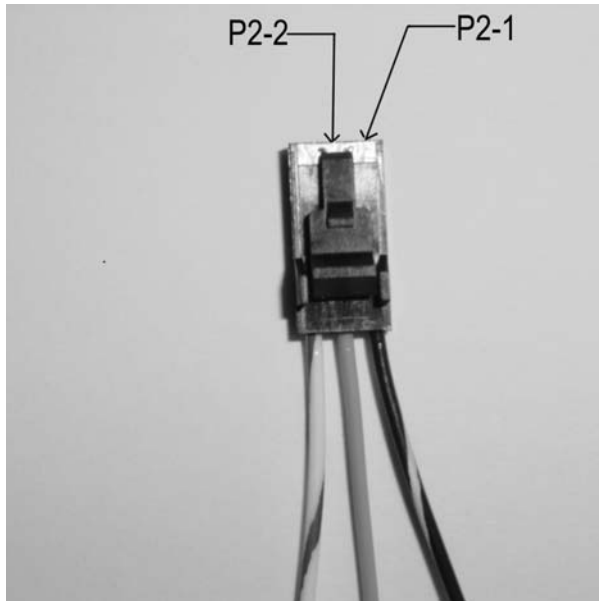

Figure 14. Potentiometer Connector P2 Pins 1 and 2
4. Remove P2 and connect DVM between P2 pin 1 and P2 pin 2 (Figure 14). Loosen screws to potentiometer to allow movement of potentiometer gear without moving nylon worm gear. Set potentiometer to 1.5K ohms \pm 100 ohms for Milroyal B, C, and Macroys, 0.87 ohms \pm 0.1 ohms for mRoys and 1.3 ohms \pm 0.1 ohms for Maxroys and Milroyal D E CCs and re-tighten potentiometer screws. This sets the resistance of the potentiometer.